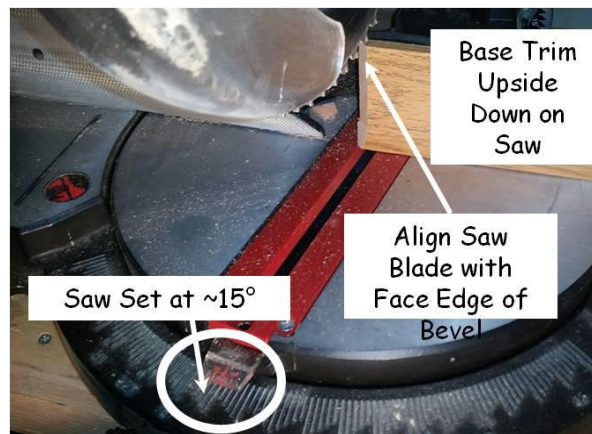

Figure 19-2. Relief Cut Alignment.
3. Relief cut - Turn the trim piece so the bottom edge is up and the face side is toward the front of the saw. Set the saw at 15°. Align the saw blade at the intersection of the 45° beveled edge and the face of the trim (see Figure 19-2).